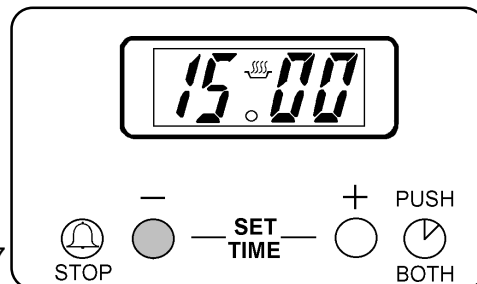

Fig. 7
To stop the sound, press button (1). The display will stop flashing and show the time of day, e.g. 15:00. The cooking symbol () will go out. See Fig. 7.
- iii) To set the length of Cooking Time, press the cooking hours button (🔥), press the increase control (+) until the cooking time is displayed, e.g. 2 hrs 15 mins. Fig. 7.